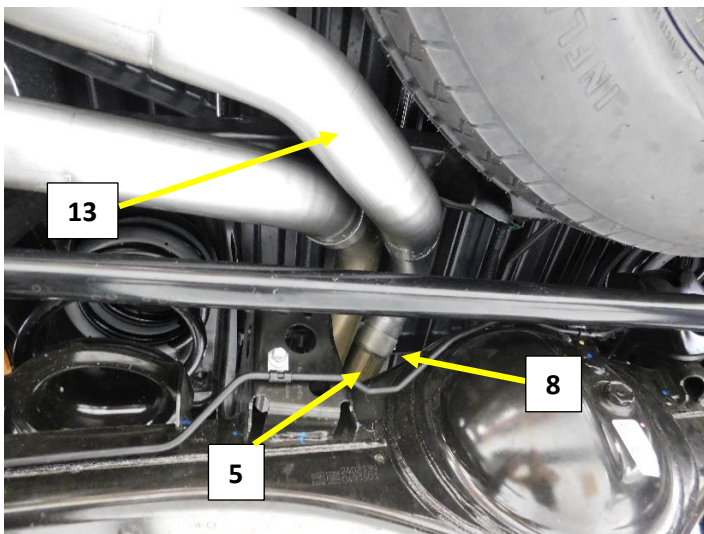

Figure.16
13. Install a 2.5" band clamp (8) on to the expanded end of the right tail pipe (13). Position the clamp (8) with the bolt at the top of the pipe and the nut facing the right frame rail when installed on to the right muffler outlet pipe (5). Fig.16